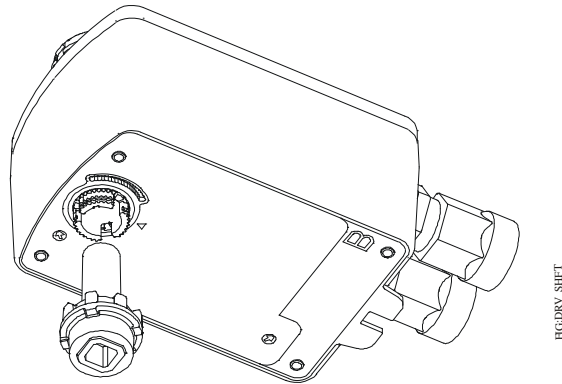

Figure 6: Inserting the Drive Shaft
4. Insert the drive shaft into Side B (Figure 6). The drive shaft is keyed for one-way assembly. With gentle pressure applied, rotate the drive shaft until the key aligns and the drive shaft falls into place.